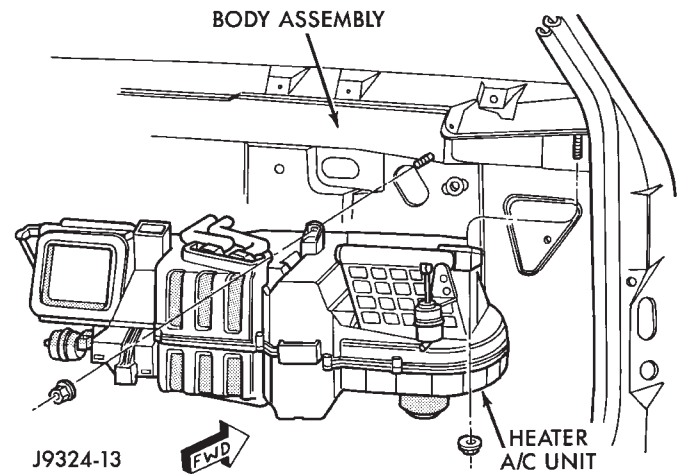

Fig. 52 Heater-A/C Housing Remove/Install
(9) Remove the nuts from the heater-A/C housing mounting studs on the engine compartment side of the dash panel.
(10) Remove the nuts that secure the heater-A/C housing to the mounting studs on the passenger compartment side of the dash panel (Fig. 52).